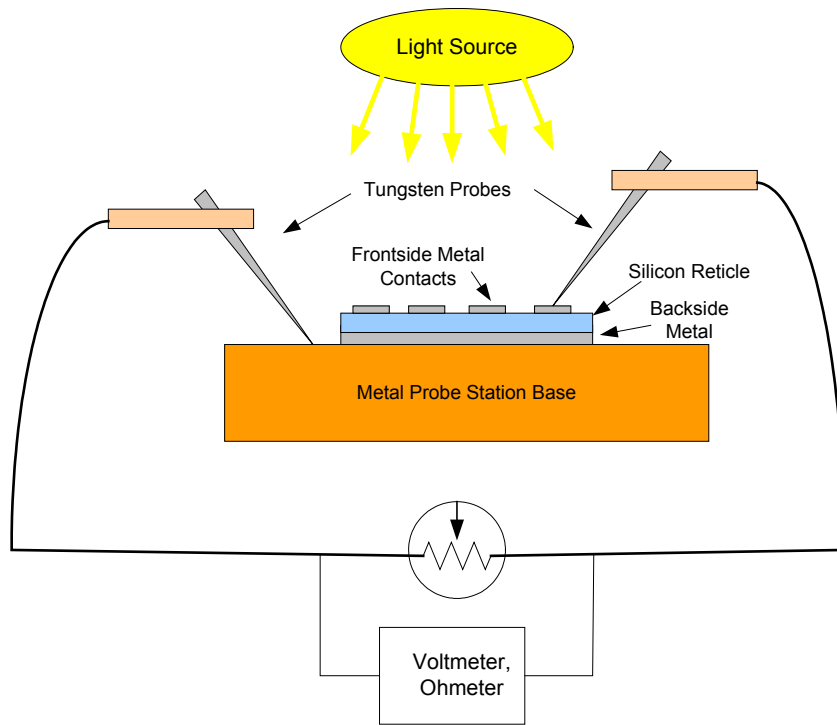
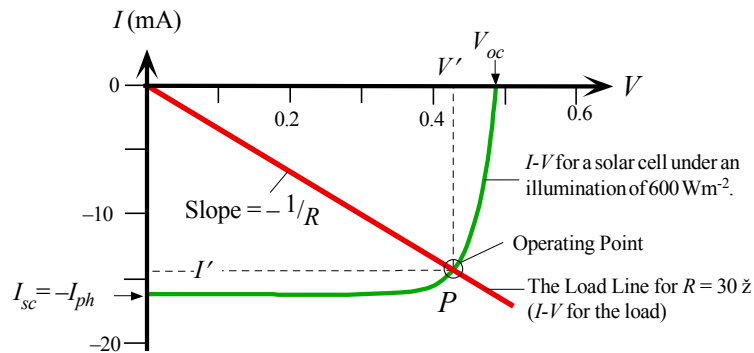

Figure 1
Figure 2
2. Solar Cell Power Curve. Using the probe station in the room adjoining the cleanroom, measure the I-V properties of a single solar cell (one that hasn't been connected in parallel or series with other cells) when you shine light on it. Figure 1 shows how this test should be made. You will vary the load by varying the resistance of the potentiometer. By measuring this resistance as well as the voltage across the resistor (with a voltmeter), you should be able to produce an I-V curve similar to the one shown in Figure 2. Using the single cell, produce these curves for three levels of microscope light and using the flood lamp. What is the optimal load for a single cell? What is the maximum power out of your cell? Based on your calculations from Part 1 on the output power of the light sources, how efficient is your cell at producing electrical power from light power?